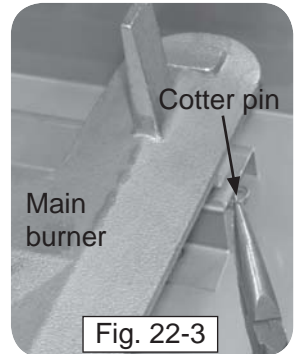

Fig. 22-3
3. Remove the cotter pin from the left or right rear burner anchoring peg by pulling it straight out of the cotter pin hole using fingers or needle-nose pliers (Fig. 22-3).